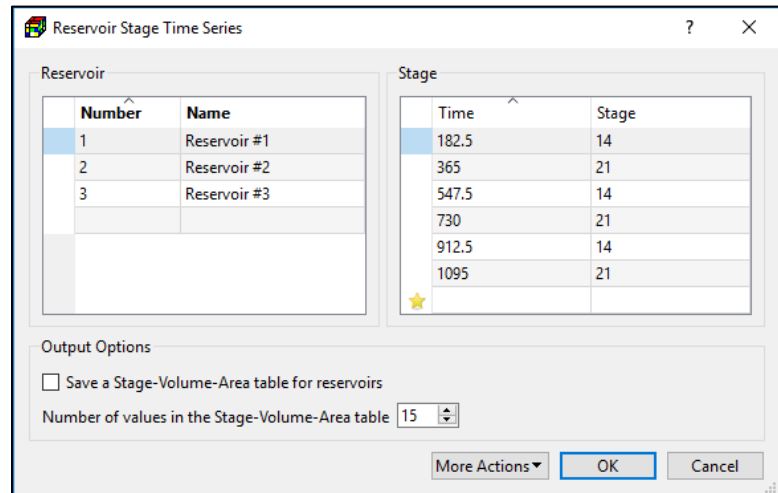

Figure 86. The Reservoir Stage Time Series dialog box
- **Stage:** Click this button to open the Reservoir Stage Time Series dialog box (Figure 86) for specifying the water table elevations of reservoirs.